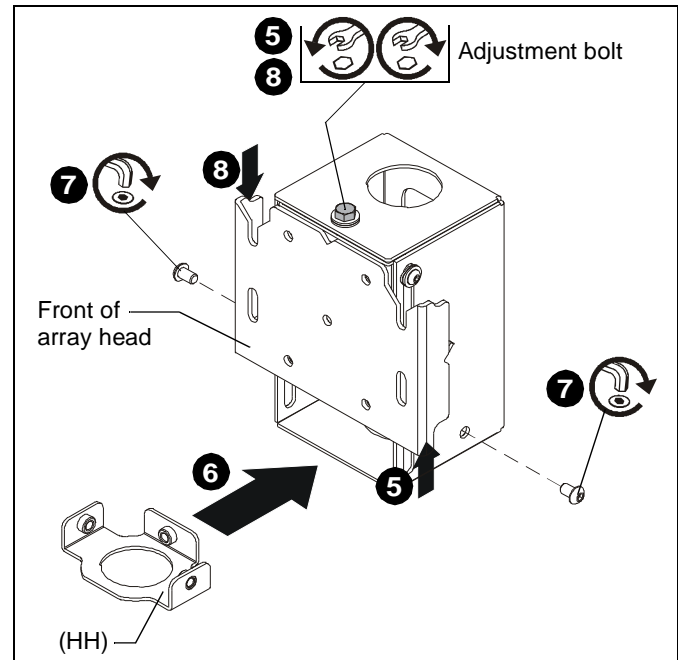

Figure 2
- Turn array head upright. (See Figure 2)
- Turn adjustment bolt on top of array head to slide plate up and enlarge opening on front of array head. (See Figure 2)
- Insert lower set screw bracket (HH) into array head (FF) with three tabs towards sides and back. (See Figure 2)
- Fasten bracket (HH) into place in bottom of array head using buttonhead screws (removed in Step 2) through sides of array head and into side tabs of bracket (HH). (See Figure 2)
- Slide plate (raised in Step 5) back into position by turning adjustment bolt on top of array head. (See Figure 2)
- Repeat Steps 1 through 8 for remaining array head (FF).